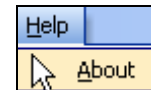

Figure 33.4.0
- In the toolbar of the IR-Interface window select **Help** scroll down to **About** and click on it (Figure 33.4.0).